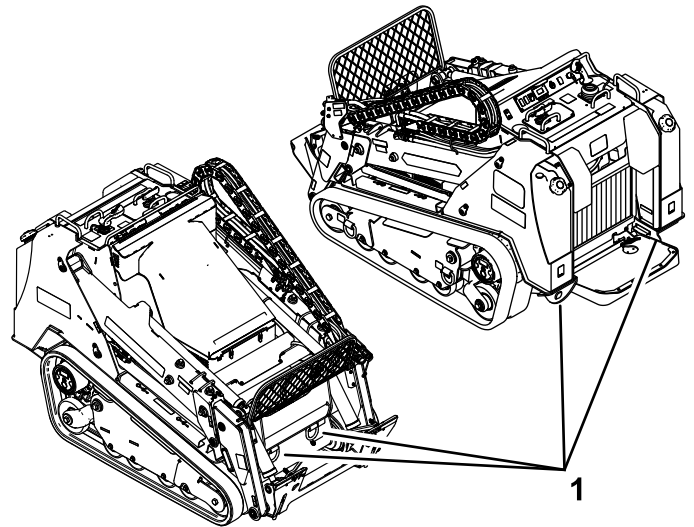

Figure 30
6. Tow the machine as required using the tie-down locations (see Figure 30).
8. Use the metal tie-down loops on the machine to securely fasten the machine to the trailer or truck with straps, chains, cable, or ropes (Figure 30). Refer to local regulations for tie-down requirements.